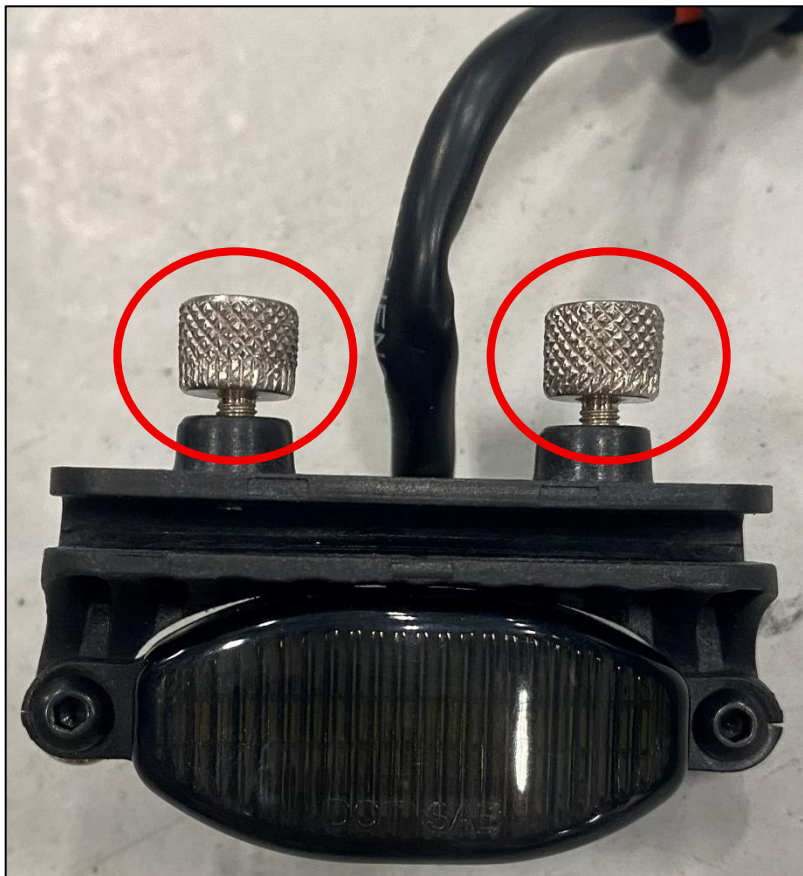

Figure 5
9. Loosely install (2) two Thumb Screws into the top of each Grille Light Bracket. *Figure 5.*